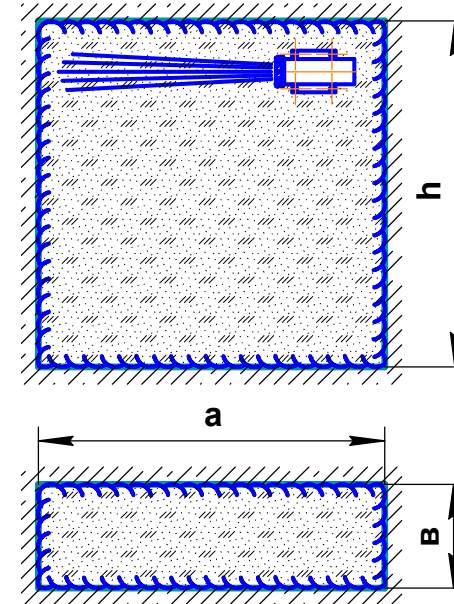

Figure 3
6.3 Fasten the MPP on the bearing surface (wall, ceiling, and floor) in any place of the volume to be protected. The MPP orientation in the volume protected can be quite different: from the horizontal position to vertical one with nozzle-sprayer down. The holes locations to fasten the MPP are shown in Figure 3.